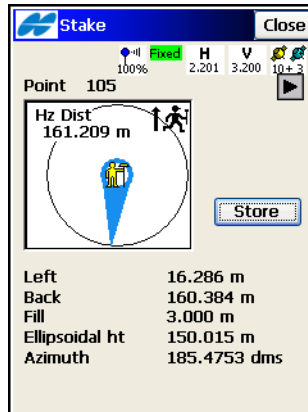

Figure 9-12. Stakeout Point & Direction – Stakeout
4. For GPS+: use the information on the **Stakeout** screen to find the target. Tap **Store** once the position is close enough to the desired one (Figure 9-12).